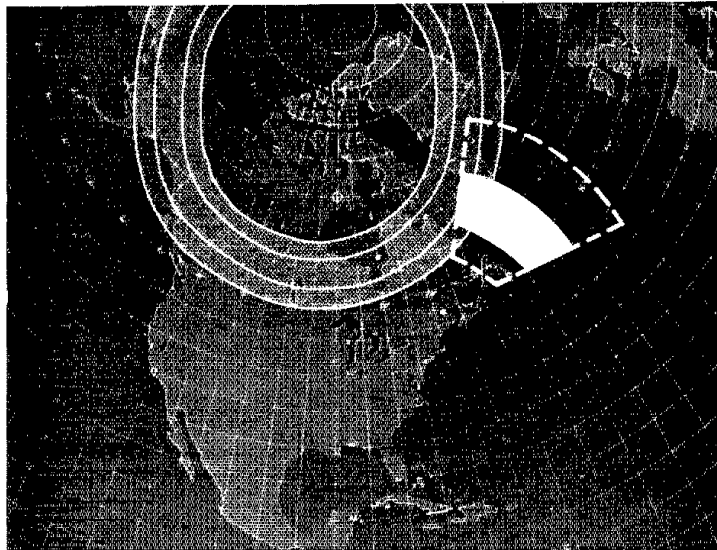

Fig. 2 — Solid-white region shows the coverage area of the USAF's CONUS OTHB experimental radar system, located in Maine.
The U.S. counterpart of the woodpecker is still experimental. The first word of the name is an abbreviation for "Continental U.S."; the "B" of OTHB stands for "backscatter," to distinguish it from another, earlier form of OTHR called "forward scatter." The mission of CONUS OTHB is to give early warning of bomber attack via the northeast oceanic approaches to the U.S. and Canada. It will do this by establishing a surveillance zone, or barrier, which is the solid-white region shown in Fig. 2. Since all aircraft flying over the water must routinely file flight plans in advance, those seen by the radar within the above zone are then compared with their reported plan; if a target or targets cannot be associated with such a plan, appropriate action is taken. The radar can go from a general search mode to a spotlight mode for a closer look if desired. Fig. 3 shows in more detail how the tracking would be done.
Since the primary mission of the radar is to maintain a watch within the solid-white regions of Fig. 2, it must choose frequencies which (1) propagate into the region, and (2) are as free of interference as possible. The radar is, of course, computer-controlled and extraordinarily
The American radar signals, by way of contrast, will sound on an a-m receiver more like power-line hum, but at any one of several modulation frequencies from 2 Hz to 60 Hz. They should be much less irritating than on-off pulsing. Because they will be coming from a source physically closer to some U.S. amateur; however, they may be troublesome when propagation is exceptionally good. The essential problem is illustrated in Fig. 2. As everyone knows, it is impractical to build a receiver with a passband having perfectly square sides. Similarly, it is unfeasible to transmit a waveform having a spectrum with perfectly square sides. As a result, when a radar such as CONUS OTHB operates adjacent to a ham band and its signals become strong enough there may be enough side-frequency spillover to be bothersome.